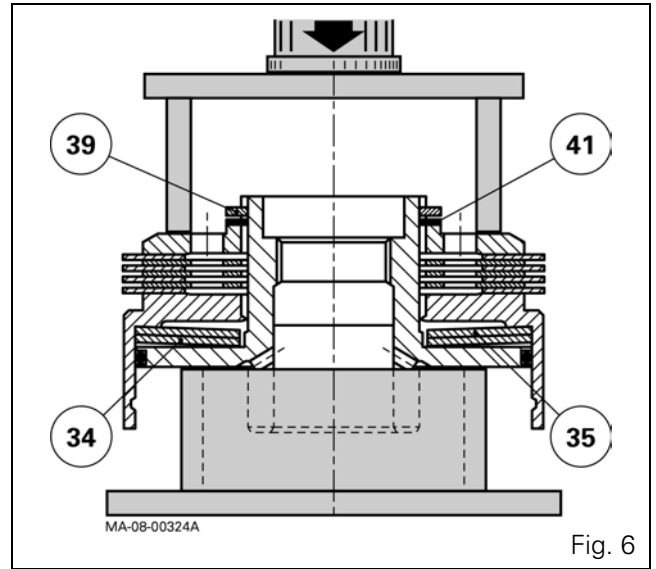

Fig. 6
16. Split bell gear (15) from the clutch assembly (16).
17. Take off circlip (31).
18. Take off cover (30).
19. Remove the O'rings (29) (32).
20. Using a suitable fixture and a press, compress the Belleville washers (34) (35) (Fig. 6).
21. Take off circlip (39) and the shim(s) (41) (Fig. 6).
23. Remove cover (38), discs (36) and intermediate plates (37).
24. Separate the hub (40) from the bell (42).
25. Remove the O'ring (33).
26. Remove the Belleville washers (34) (35).
Using a press and suitable fixture (Fig. 6) apply a load of 2000 daN to fully compress the Belleville washers (35) (34).